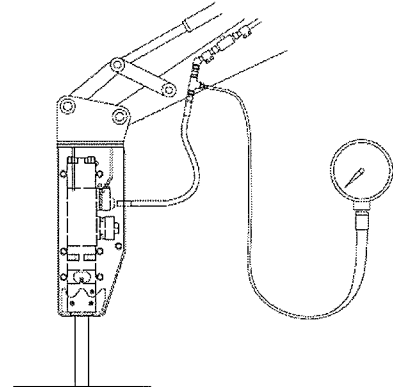

Fig. 3
- (6) To set your *Circuit Relief Valve (Secondary Relief Valve)*, run the engine back up to full throttle and press down on the breaker pedal. Next, turn the restriction knob on the flow meter in clock wise to increase restriction to the point where the relief valve is fully open and zero flow is observed. Set relief to specification.
- (7) This is optional to set and record *Internal Oil Flow* to PQ characteristic, back off the restriction knob on the flow meter to 10 MPa (100 bar, 1500 psi) and record flow. Do the same at 12 MPa (120 bar, 1750 psi), 14 MPa (140 bar, 2000 psi), 16 MPa (160 bar, 2320 psi), 18 MPa (180 bar, 2610 psi) and maximum. Record flow results and mail it in to Okada.
- (8) Disconnect the flow meter and connect the hoses to the breaker. Attach the pressure gauge to inlet line thorough tee connection as shown in Fig. 3. Operate the breaker and observe the *Working Pressure*. It must be or adjustments need to be made. If the working pressure is higher than specified limits, lower the *Oil Flow* until *Working Pressure* comes into range.